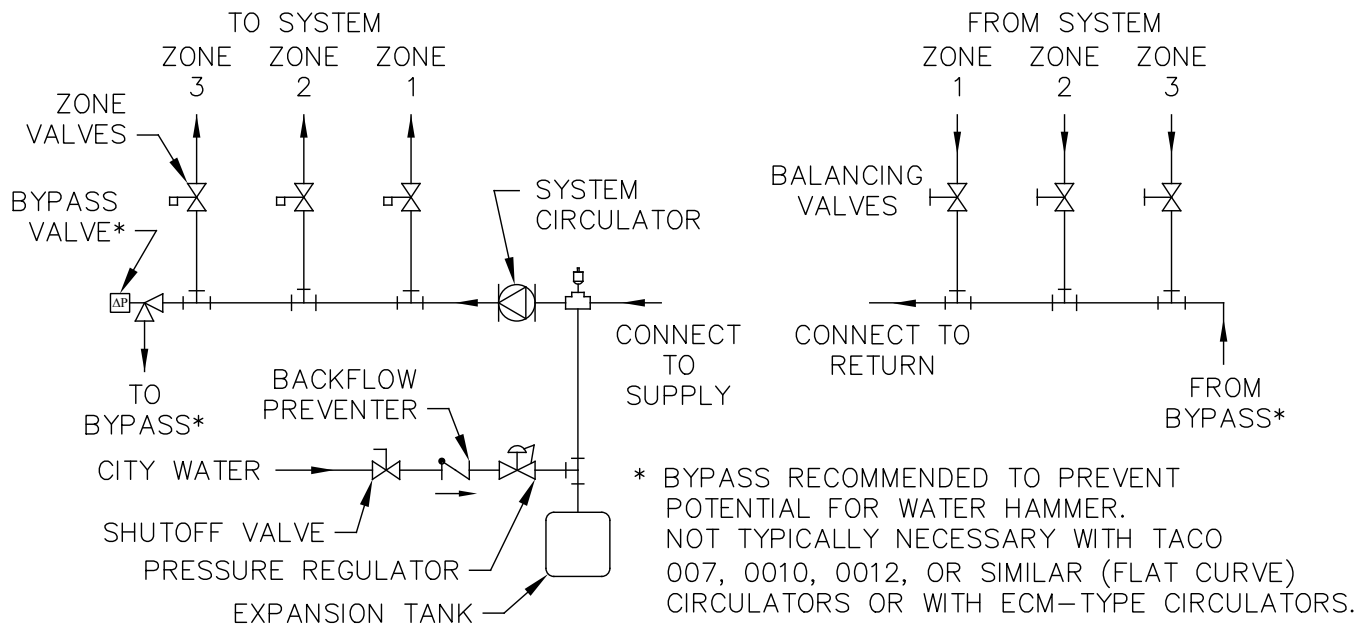

Figure 3.6: Zone Piping with Zone Valves
1. See Figures 3.6 and 3.7 for basic zoned system layouts. Circulators may be installed in either supply or return piping. Refer to PB Heat Water Installation Survey for additional information.